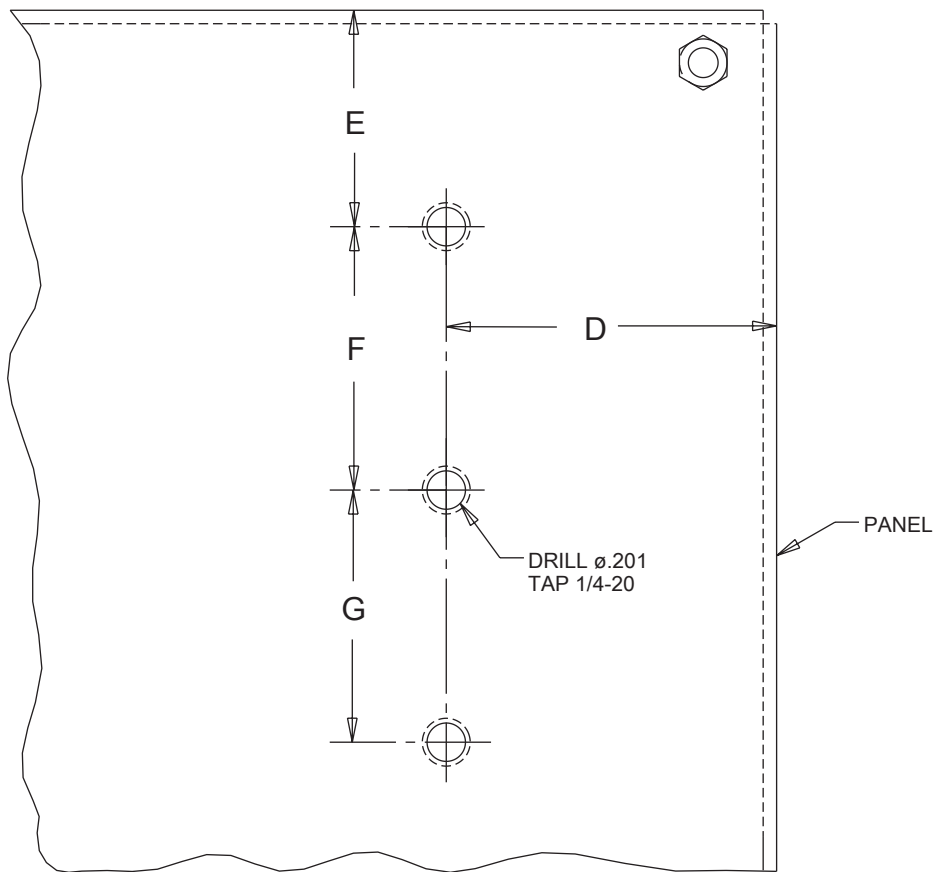

FIG 1.
1. Drill and tap holes in panel as shown in Figures 1 and 2. Two (2) holes are required for unfused switches and operators for circuit breakers (dimensions D, E and F). Three (3) holes are required for fused switches (dimensions D, E, F and G).